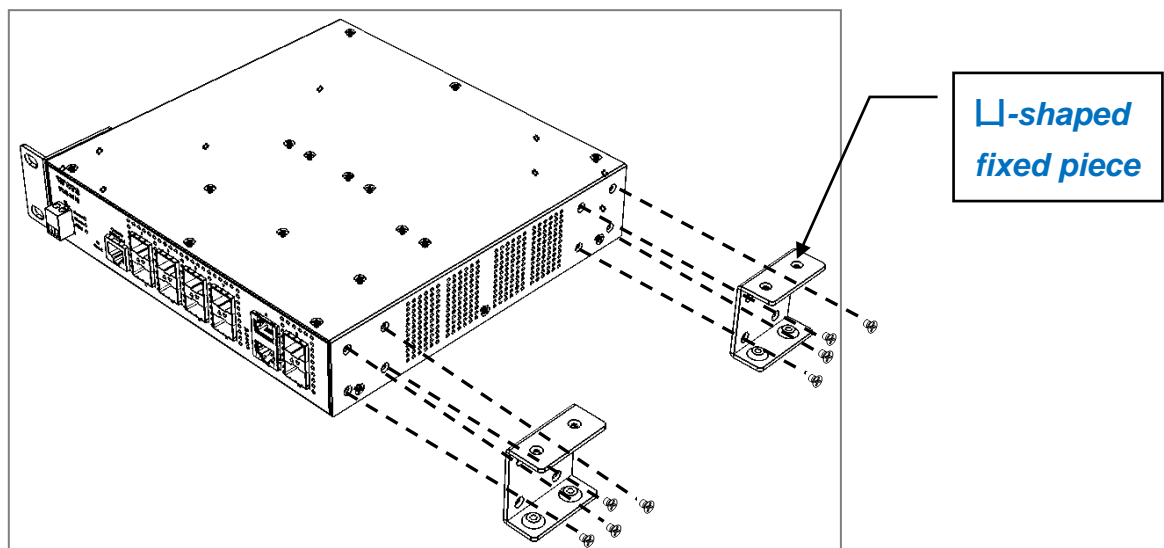

Figure 2-2. Install the L-shaped fixed pieces for two-switch mounting
- 1.4. On the right side of the switch, attach one L-shaped fixed piece by inserting the screws provided in the FOS combine kit through this fixed piece and into the mounting holes in the switch. (See Figure 2-2)
- 1.5. Repeat the same manners as we had mentioned in Step 1.4 to install another L-shaped fixed piece on the same side of this switch. (See Figure 2-2)